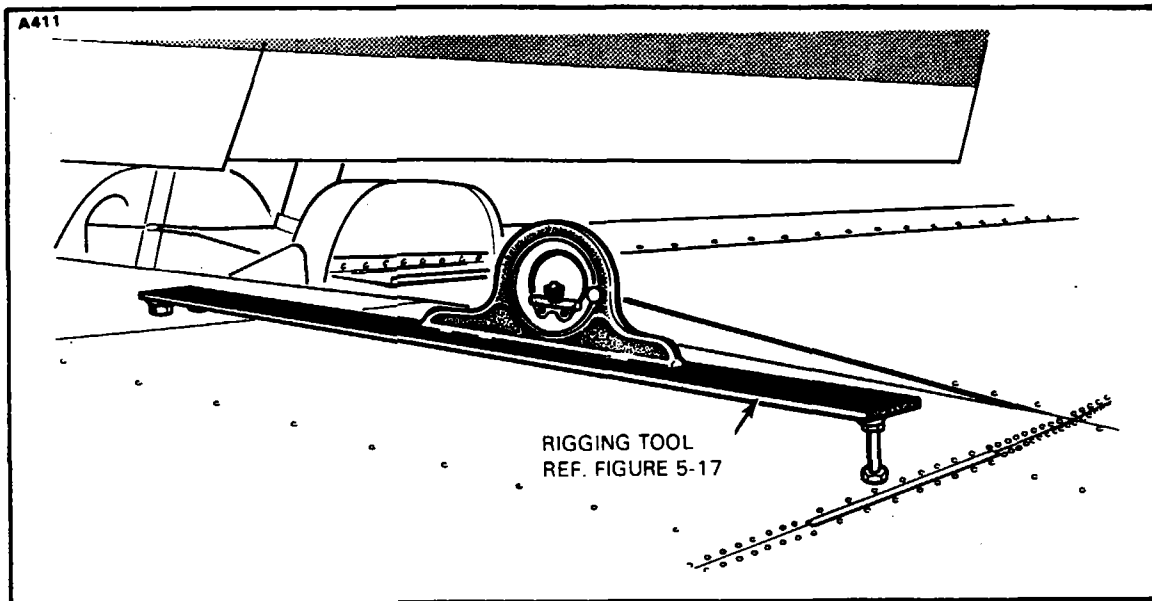
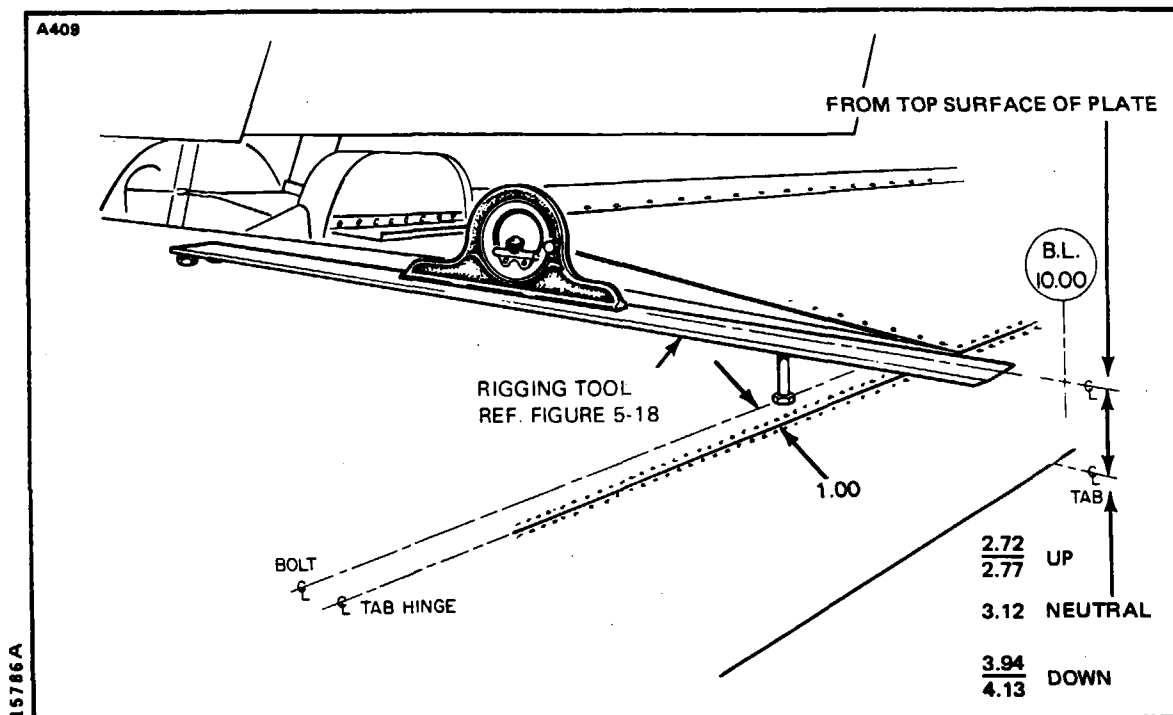

Figure 5-7. Leveling Stabilator
Figure 5-8. Leveling Stabilator
- b. Place the stabilator in a neutral position using a fabricated tool and bubble protractor as shown in Figure 5-7 or Figure 5-8. (The tool may be fabricated from dimensions given in Figure 5-17 or Figure 5-18.)